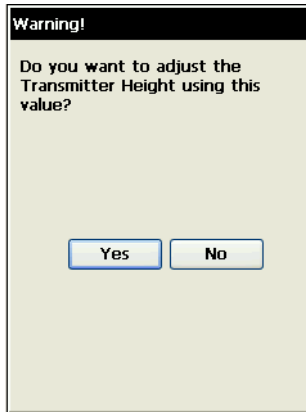

Figure A-12. Adjust Transmitter's Height
3. Tap **OK**, then tap **Yes** at the **Warning!** screen to adjust the transmitter height using the results (Figure A-12 on page A-8). The offset will be automatically added to the transmitter's height.